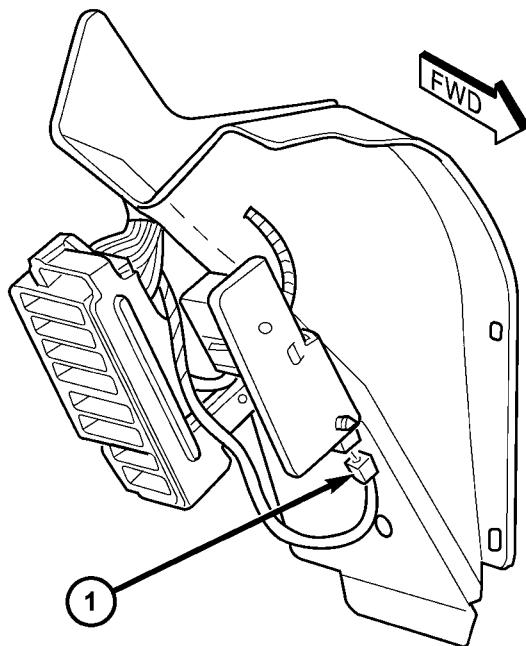

Fig. 13 CPPS ELECTRICAL CONNECTION
(1) Disconnect 2-wire switch connector under instrument panel (Fig. 13).
(2) Check switch continuity with an ohmmeter while operating clutch pedal.
(3) If continuity is not present or always present, replace clutch master cylinder. Switch is not serviced separately.